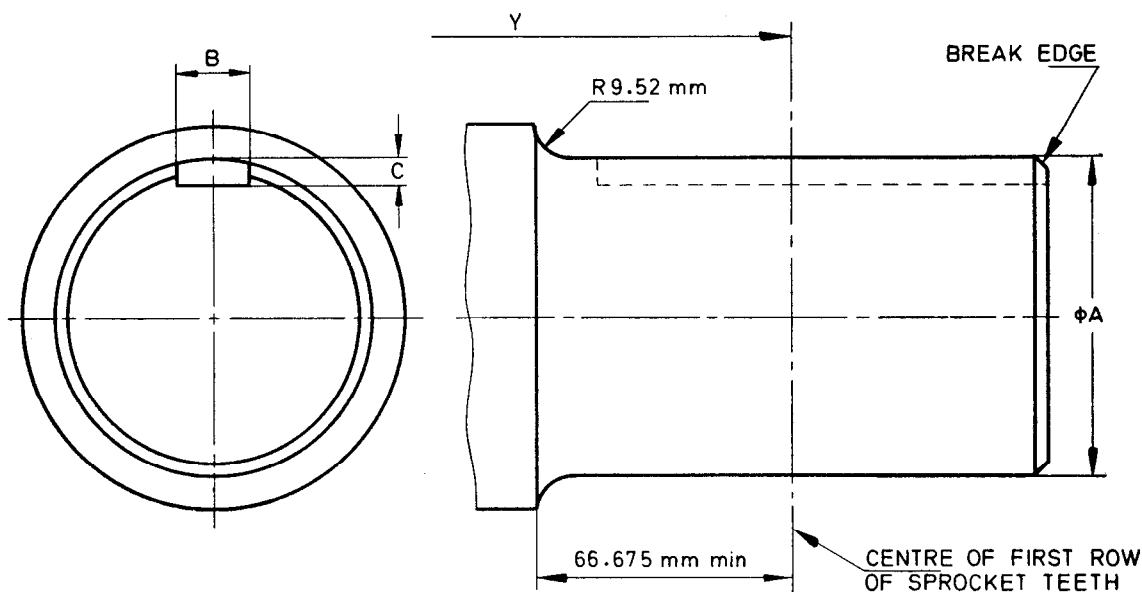

FIG. 4 ROTARY TABLE PINION-SHAFT EXTENSIONS
**2.4 Rotary Table Pinion-Shaft Extension** — Fig. 4.
**3.7** The dimensions of rotary table pinion-shaft extensions shall conform to the dimensions specified in Table 4 and given in Fig. 4.
( Clause 3.7 and Fig. 4 )